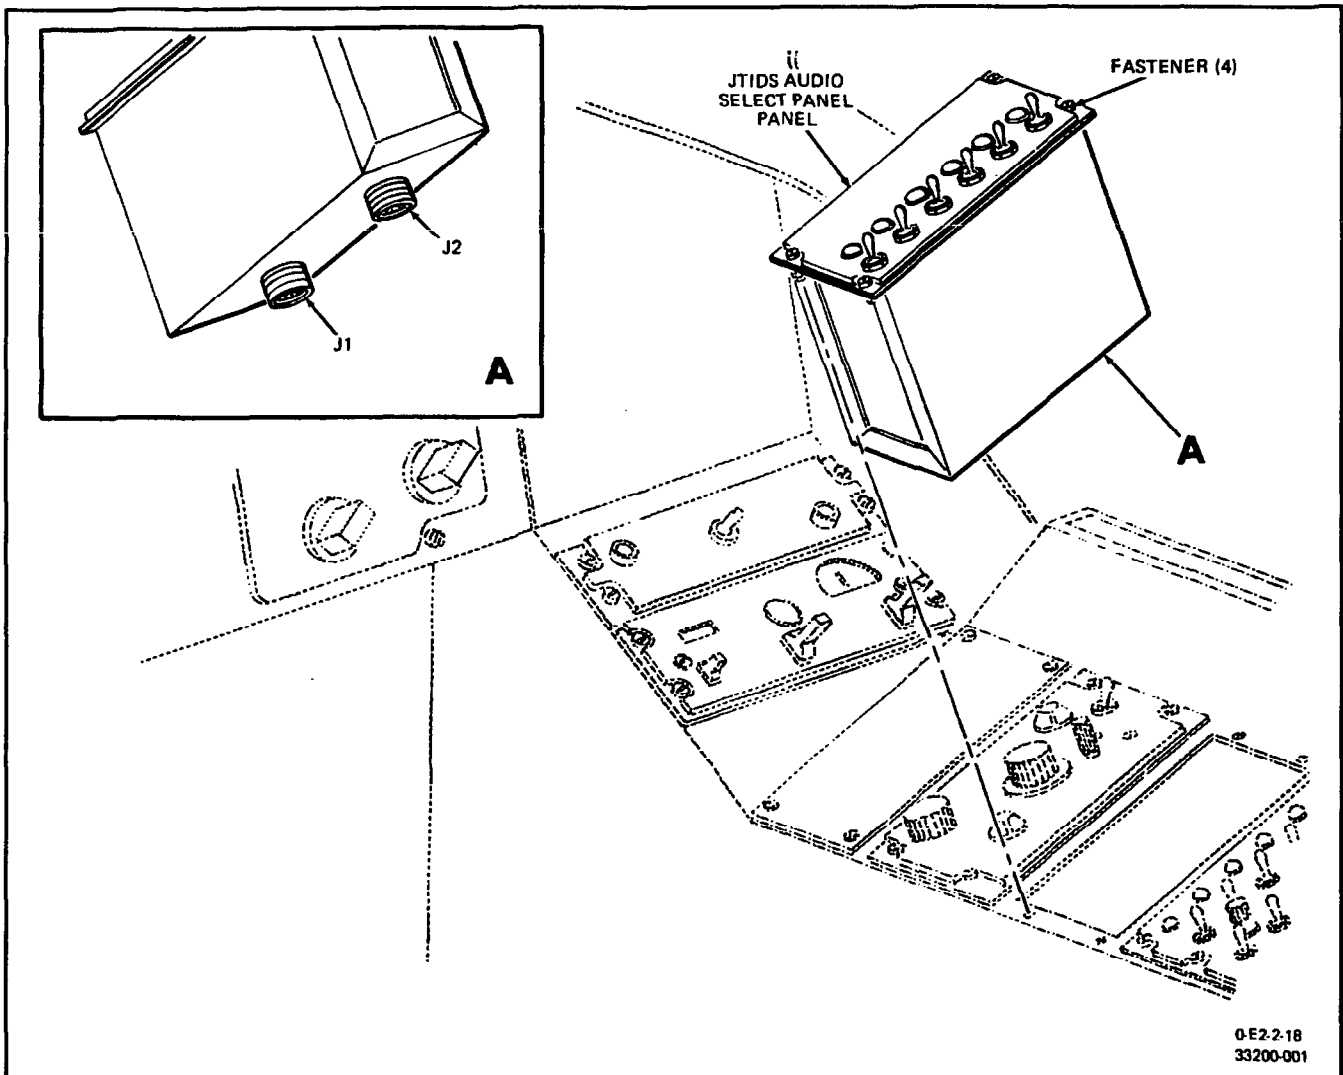

Figure 1. Removal and Installation of JTIDS Audio Select Panel in Cockpit
2. The JTIDS audio select panel (hereinafter referred to as audio select panel) is part of the Intercommunication Set AN/AIC-14A. There are five controls: two controls are in the cockpit (refer to NAVAIR 01-E2AAA-2-18.1, WP003 00 figure 1, items 15A and 23A) and three controls are in the crew compartment (see figure 4, item 89).
**3. REMOVAL.** (Figures 1 and 2.)
If cable connectors are inaccessible when removing a cockpit control, remove appropriate access plate on side of console. Refer to NAVAIR 01-E2AAA-2-18.1, WP003 00 (figure 1, items 17 and 21) for location of access plates.
4. **INSTALLATION.** (Figures 1 and 2.)